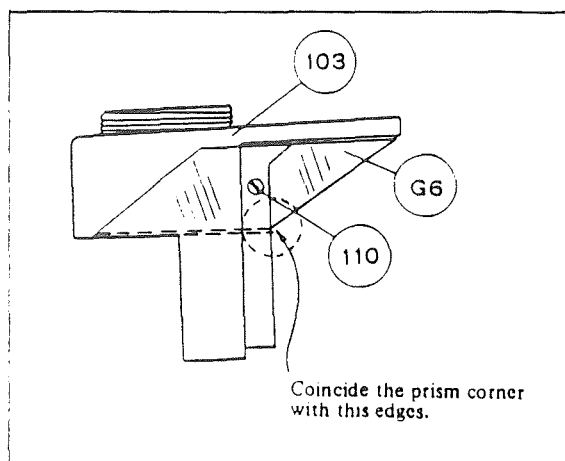

Fig. 21
(After positional adjustment, stick it using No. 2001.) (Fig. 21)
- 3) For the attaching positions of prism (G6) and lefthand prism box 52, refer to Fig. 21.
- 4) Sticking of righthand sleeve (56) of (G8) is performed as below: